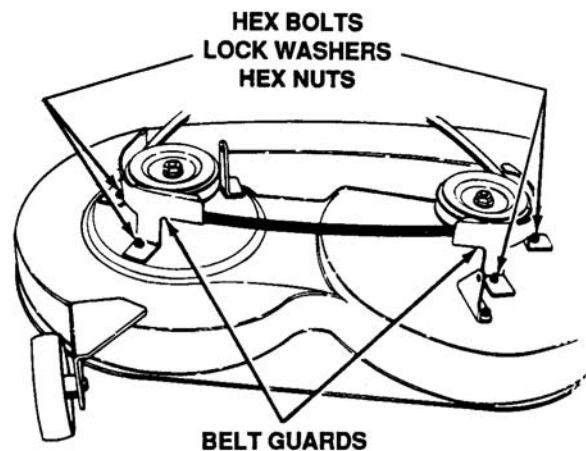

Figure 7-6. Location of Belt Guards
- h. Remove the belt guards at each deck pulley by removing the hex bolts, lock washers and hex nuts. Remove belt. See Figure 7-6.